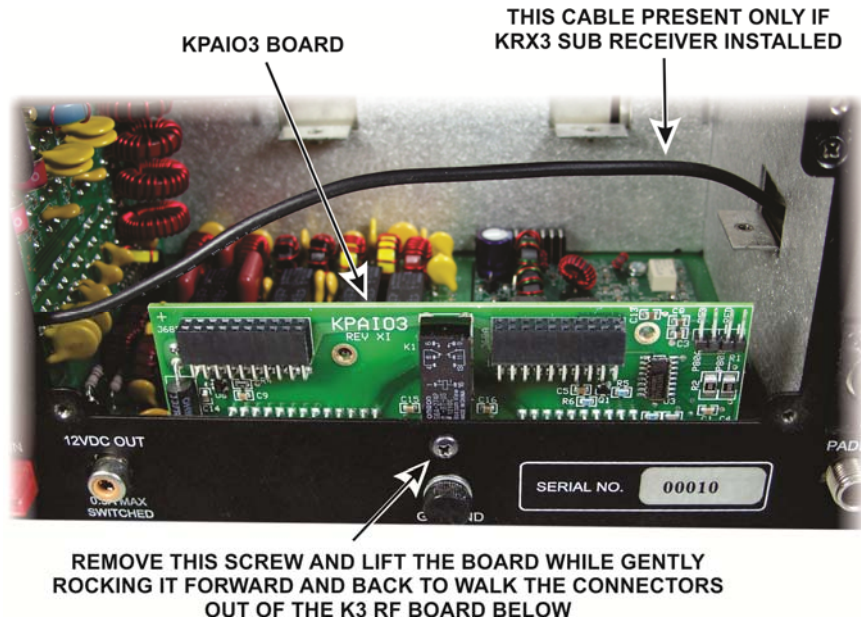

Figure 5. Removing the KPAIO3 Board.
- ☐ Remove the KPAIO3 interface board as shown in Figure 5.
- Replace the KPAIO3 interface board (Figure 5, pg 4). The connectors are normally a tight fit. Gently rock the board back and forth while pressing down until the connectors are mated and the standoff on the KPAIO3 board is lined up with the screw hole in the rear panel. Secure it with the 4-40, 1/4" (6.4mm) black pan head screw you removed earlier.